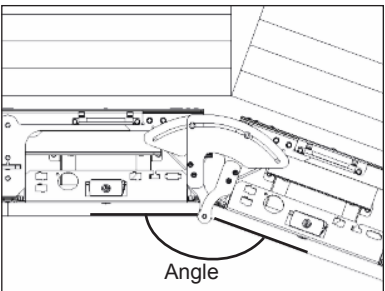

Figure 20: Setting Wing at Appropriate Angle
3. Set the wing at the necessary angle to engage the left and right sections. The hinge adds a gap (seam) between the module columns, which is necessary for top-access module removal via the module pan sliders. Refer to **Figure 20**.